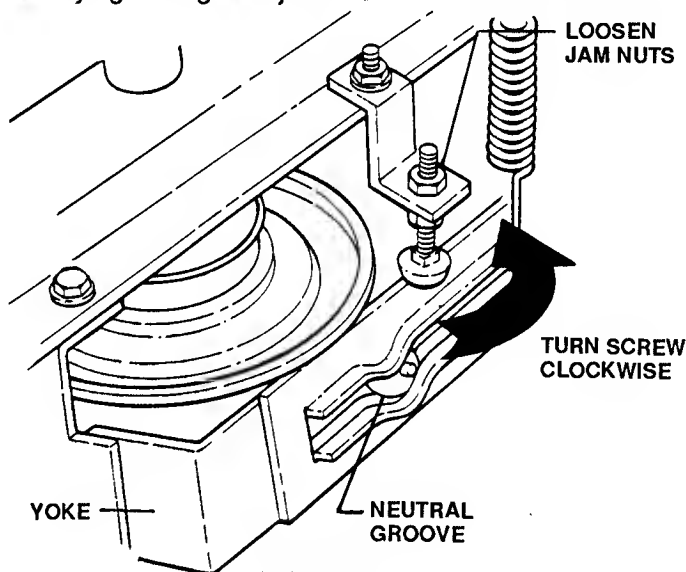

FIGURE 37
If rubber on driven disc ring wears enough to cause loss of traction, readjust the yoke stop (see Figure 37) to restore good contact. With engine "OFF" and drive shifted into "NEUTRAL", loosen the jamnuts and turn the bolt clockwise about two(2) turns. Check to see that rubber ring turns freely in the center or "NEUTRAL" groove - turn bolt in more if needed to achieve this, then secure bolt by tightening both jamnuts.